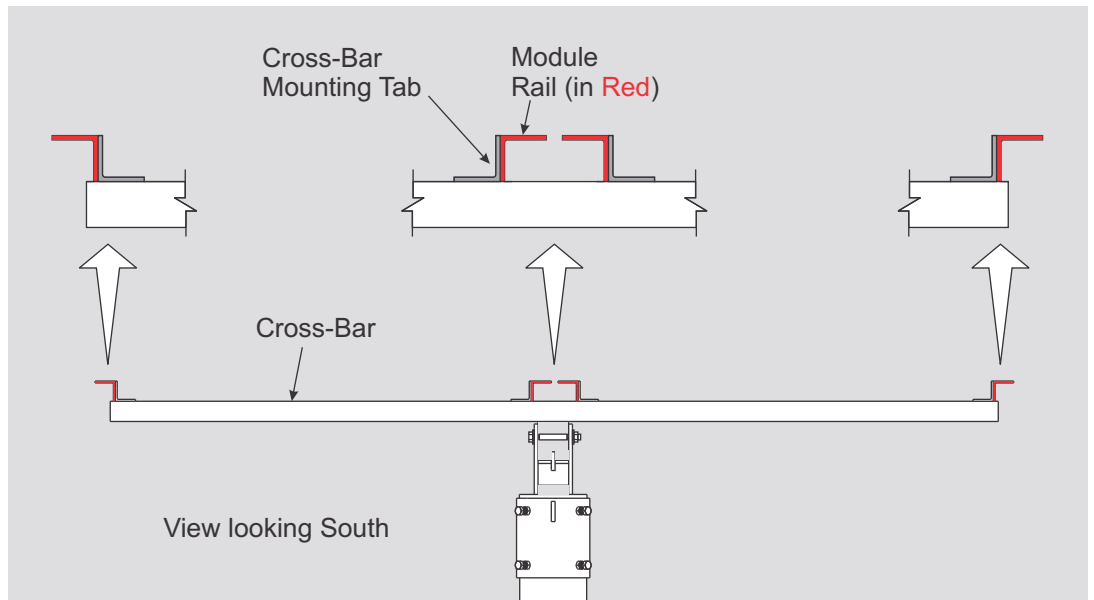
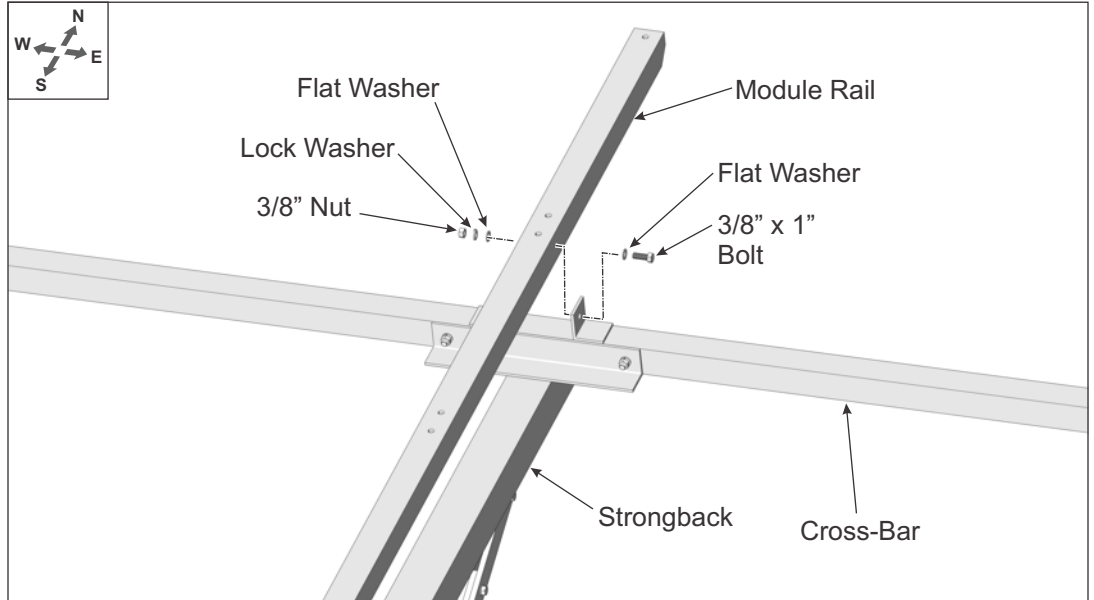
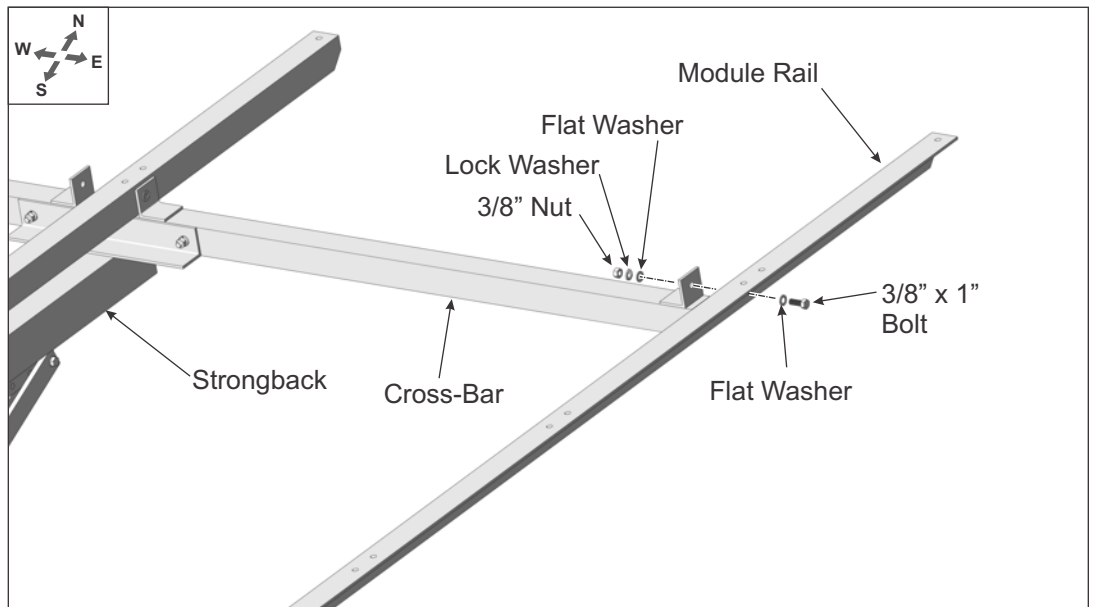

Figure 4-1: Orientation of Module Rails to Cross-Bars
Figure 4-2: Installing the Inboard Module Rails to Cross-Bars
Figure 4-3: Installing the Outboard Module Rails to Cross-Bars
Module Rails are installed differently depending on whether they are mounted inboard or outboard on the Cross-Bars. (See Figure 4-1)
- A. Referring to Figure 4-1 for orientation of the Module Rails, position and align the Module Rail mounting holes with the holes of the Cross-Bar mounting tabs and secure with 3/8" x 1" bolts and hardware. Finger-tighten for now. (See also Figure 4-2)
- A. Referring to Figure 4-1 for orientation of the outboard Module Rails, position and align the Module Rail mounting holes with the holes of the Cross-Bar mounting tabs and secure with 3/8" x 1" bolts and hardware. Finger-tighten for now. (See also Figure 4-3)